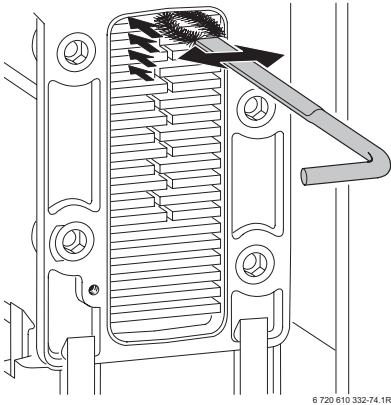

Fig. 39
- ▶ Clean the heat exchanger from top to bottom using the brush. Refer to fig. 39.